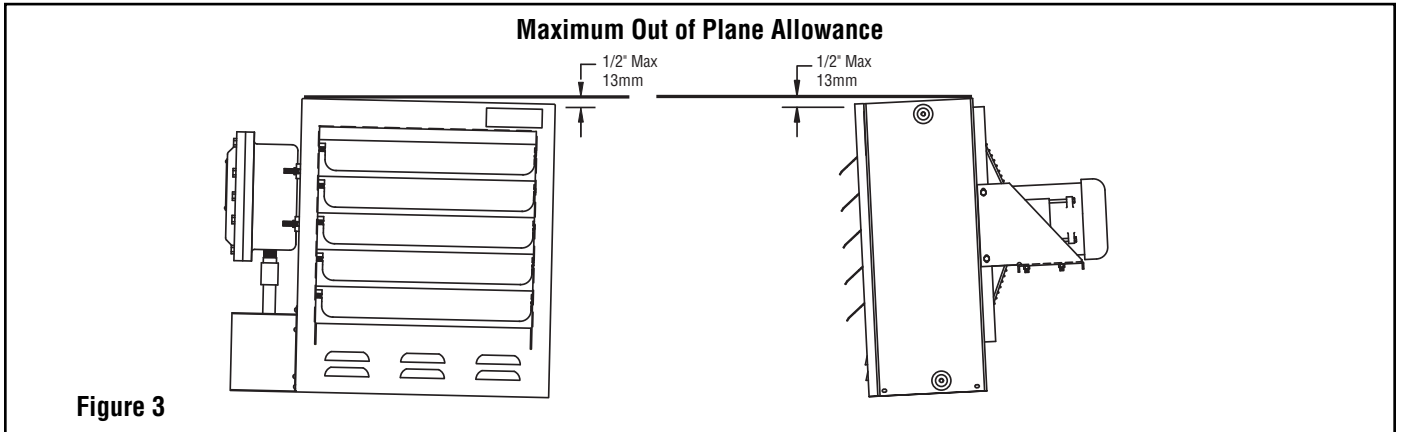

Figure 3
- Install and operate in upright position only. Refer to Figure 3 for level requirements. Failure to comply will cause overheating of the element and shutting down the unit by tripping the high temperature cutout.
If using mounting hardware or a supporting structure not supplied by Chromalox, the unit should be suspended from the supporting structure thru the two mounting points on top of the unit with 5/8 NC bolts and lockwashers. If single point mounting is desired, order the correct size Chromalox adapter bracket (P/N 027-302361-001 for 12" fan units, P/N 027-302361-002 for 16" fan units) and P/N 027-302361-003 for 20" fan units. This bracket is designed to hold the unit over its center of gravity with a 1 dia. bolt. The maximum tilt angles as shown in Figure 3 must not be exceeded in either direction during operation and installation. Failure to comply will cause high limit shut down.